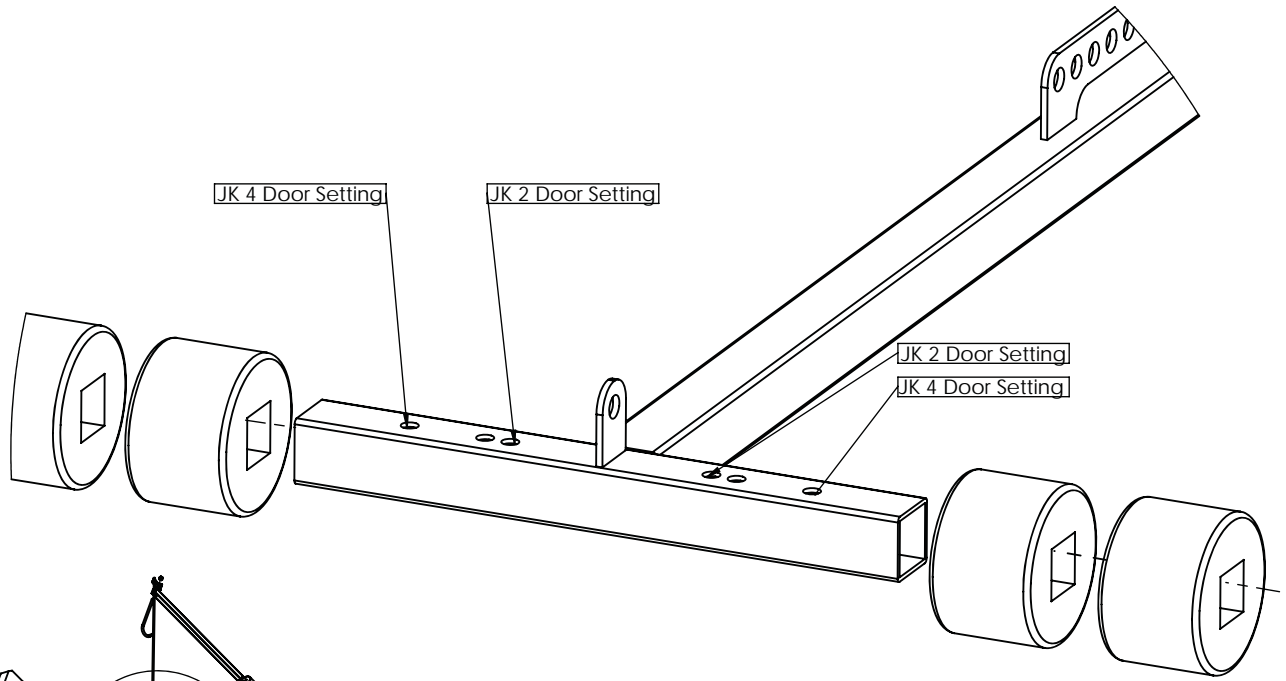

Fig. 3
- A. Slide the two support arms (HAT-101) into the T-shaped bar (HAT-100) moving the spring button to the appropriate holes as shown in Fig. 3